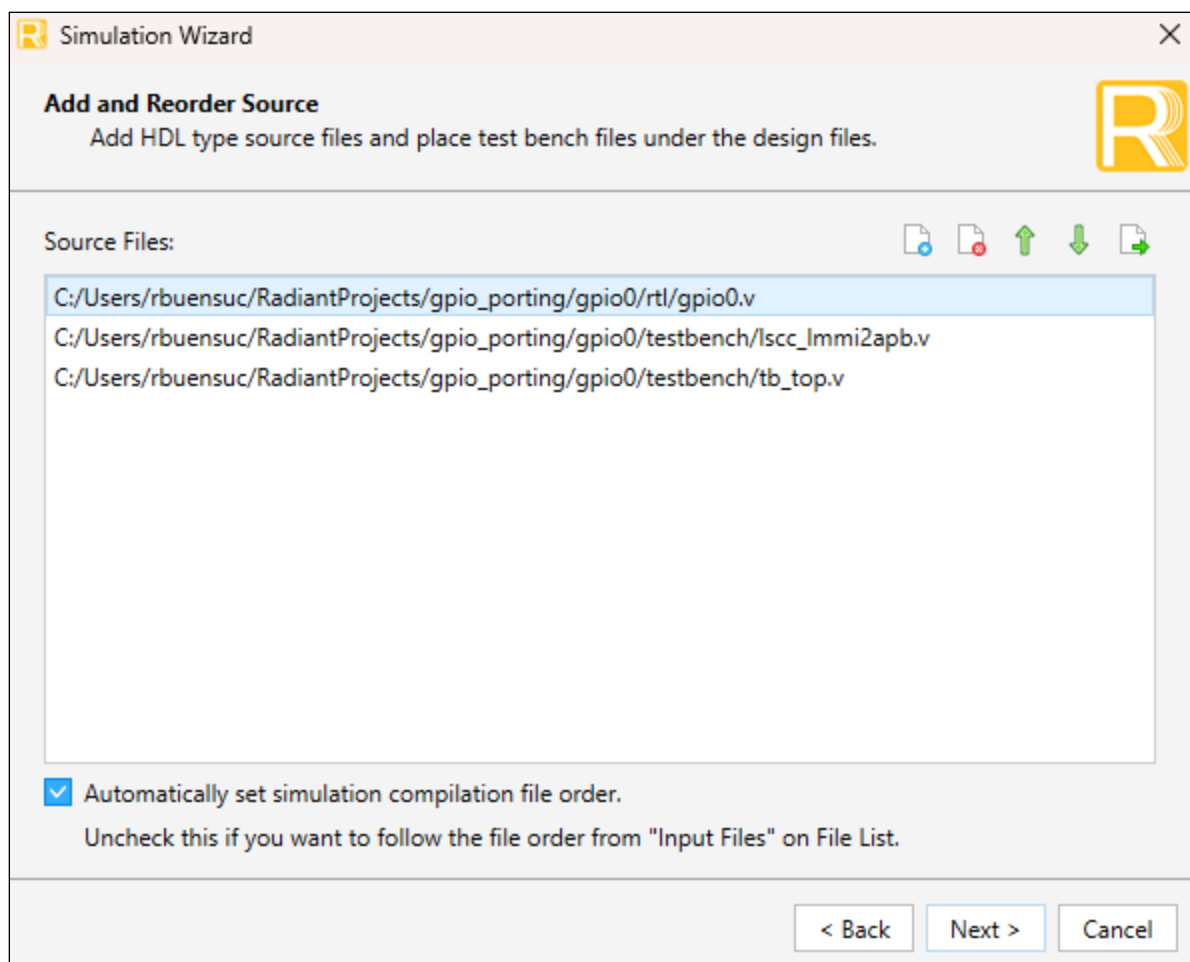

Figure 3.4. Adding and Reordering Source
2. Double-click **Next** to open the **Add and Reorder Source** window as shown in Figure 3.4.
IP Generation and Evaluation	Updated Figure 3.4. Adding and Reordering Source .